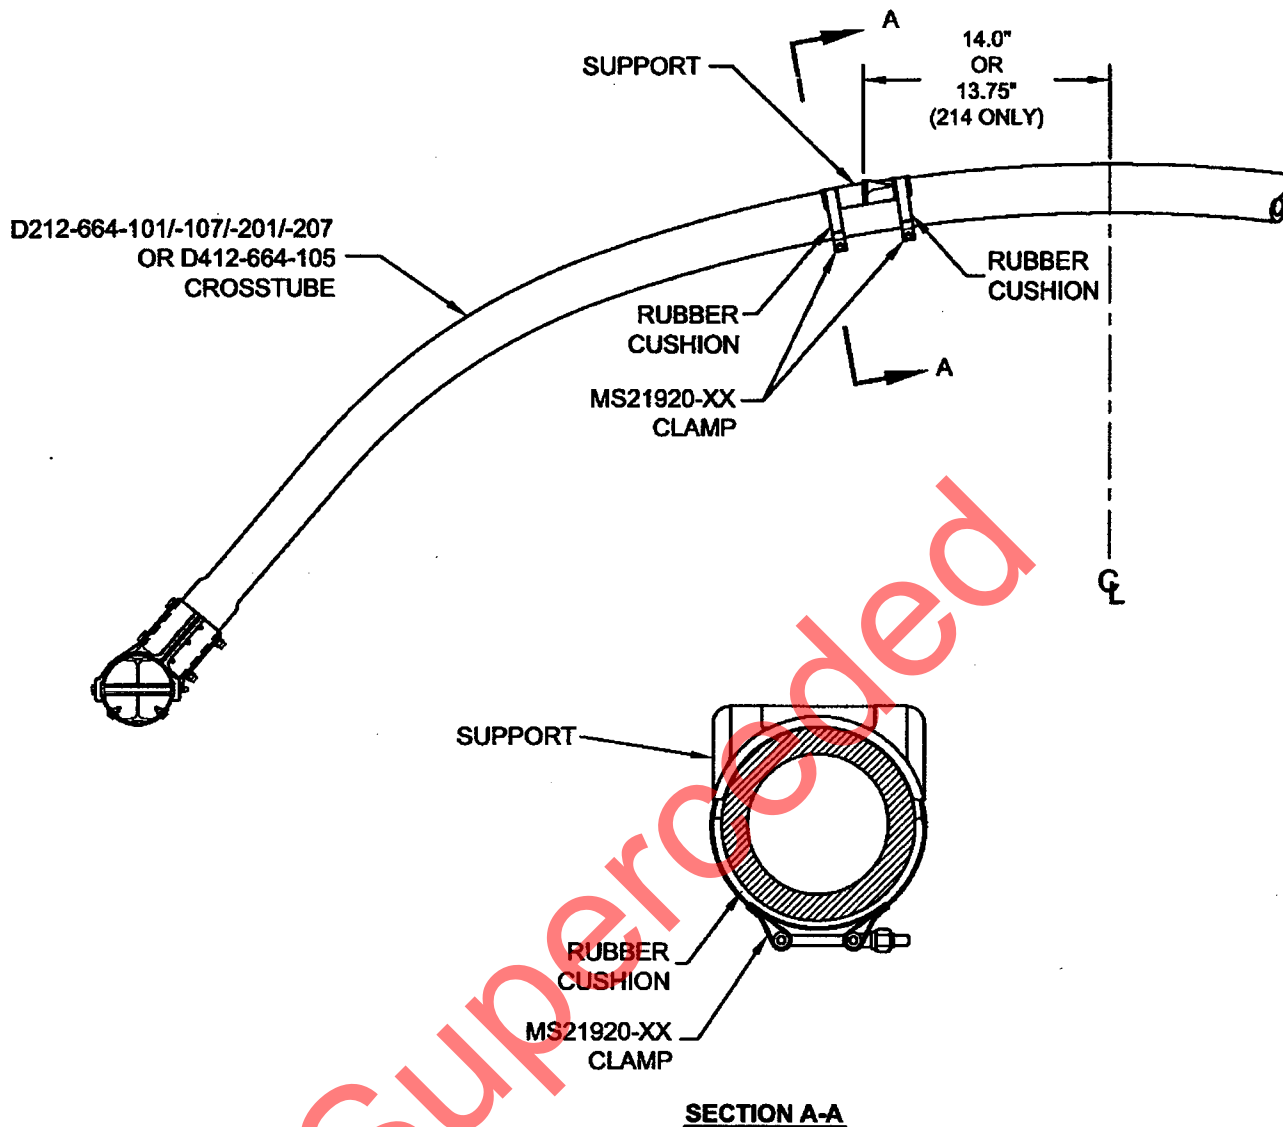

FIGURE 1: SUPPORT INSTALLATION
For the crosstubes listed above, section 32.4 of ICA-D212-664 is amended as follows. Use Figure 1 of this service instruction and Figures 32-2 to 32-9 of ICA-D212-664 for further reference. For crosstubes of an earlier change number, it is recommended that if the supports are removed, the supports should be reinstalled using the procedure listed below.
- 32.4.1 Locate the area on the crosstube for installation of support (see Figure 1 of this service instruction). For D212-664-101/-107/-201/-207 and D412-664-105 crosstubes, the outward face of the support tabs should be 14.0" (355mm) from the crosstube center for 204/205/210/412/UH-1 aircraft. For installation on 214B/B-1 aircraft, the outward face of the support tabs should be 13.75" (349mm). Ensure paint finish of crosstube is intact; touch up as required per Chapter 5 (5.3.9) of ICA-D212-664.
- 32.4.3 Apply a 0.04" to 0.07" thick layer of Proseal 890 Class B or AMS-S-8802 Class B sealant underneath applicable support and install support as shown in Figure 1 of this service instruction.
- 32.4.4 Install the clamps opposite to crosstube support as shown in the sectional diagram of Figure 1. Install rubber cushions underneath each clamp around the bottom circumference of the crosstube up to the crosstube centerline. Torque clamps 80-100 in·lb (9.0-11.3 Nm). It is acceptable to use smaller or larger sized MS21920-XX clamps than those listed in ICA-D212-664, ensure that after torquing the clamps per this instruction, the nuts are in safety but not bottomed out